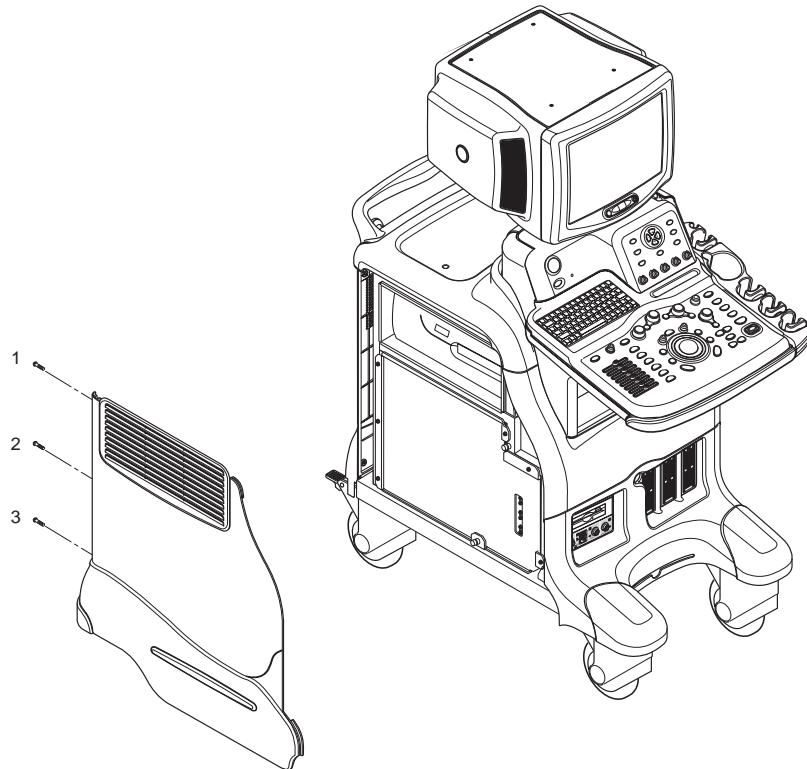

Figure 8-43 Removing the Left Cover
- 3.) Remove the Left Cover. Refer to Figure 8-43.